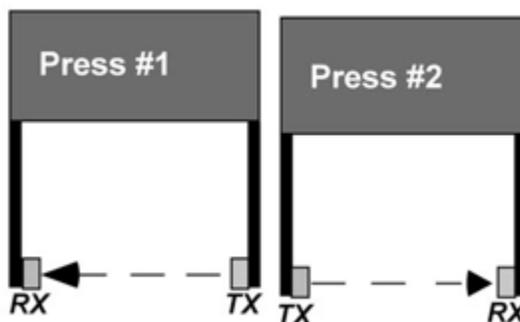

Figure 2-24. Reversing Transmitters (TX) and Receivers (RX) to Prevent Cross Talk
- Reverse the position of the transmitter and receiver on the second press, as shown in *Figure 2-24*.